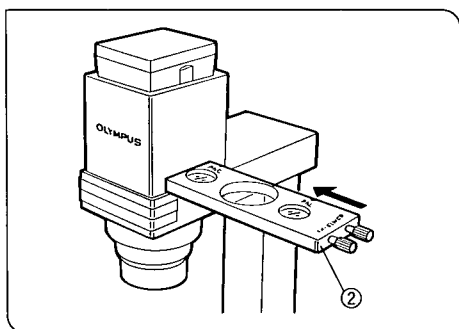

Fig. 32
1. Remove the dummy slider from the slider slot on the illumination column. (Fig. 32)
2. Drop the frosted filter ④ provided with the illumination column into the center aperture ③ of the ring slit slider ②. (Figs. 32, 33)
3. With the imprinted side of the ring slit slider ② upwards, and the V-groove for the click function towards the rear, insert the slider into the slot. (Fig. 32)